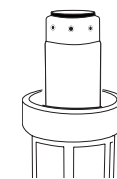

Figure 8
10. Place filter into housing. (See Figure 8.)